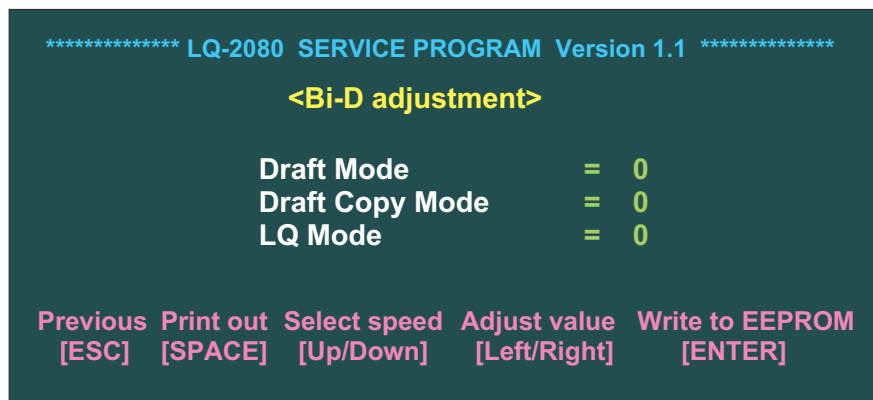
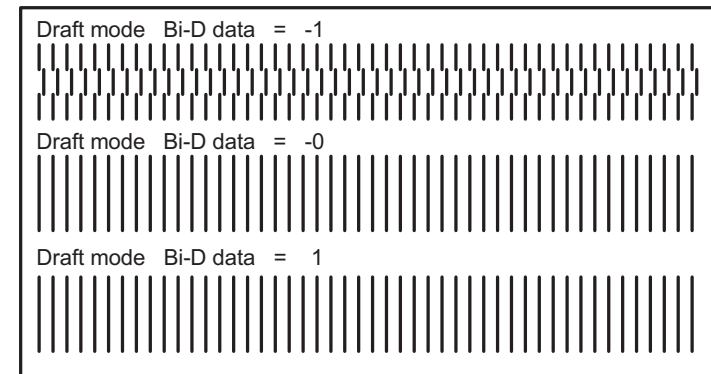

Figure 4-5. Initial Menu of the Bi-D Adjustment
Figure 4-6. Bi-D Pattern Sample
- The value "0" shown in the screen shown in Figure 4-5 is the initial value used in the program, which varies from the one stored in the EEPROM. However, if the main board has been replaced, the value in the EEPROM is replaced with "0" as the initial value.
4. Output the patterns for the Draft Copy Mode and the LQ Mode, the rest of the three modes in the screen (Figure 4-5). Then check that the vertical lines in the middle row for each mode are aligned. (If no adjustment is needed, you can turn the printer off, not continuing to the next step.)
5. Examine the patterns for the three modes output in the previous steps, and correct the value in the screen shown in Figure 4-5 until the vertical lines for the center value (Data = 0 in Figure 4-6) are aligned.